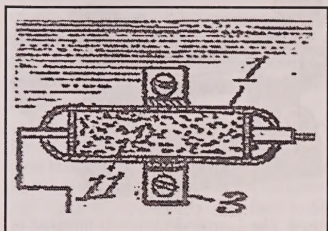

Fig. 2. An enlargement of the crystal holder shown in Fig. 1.
A detail of the crystal holder is shown enlarged in Fig. 2, where (11) is the contents of the holder, consisting of the crystal, with pressure on it being adjustable by slid-